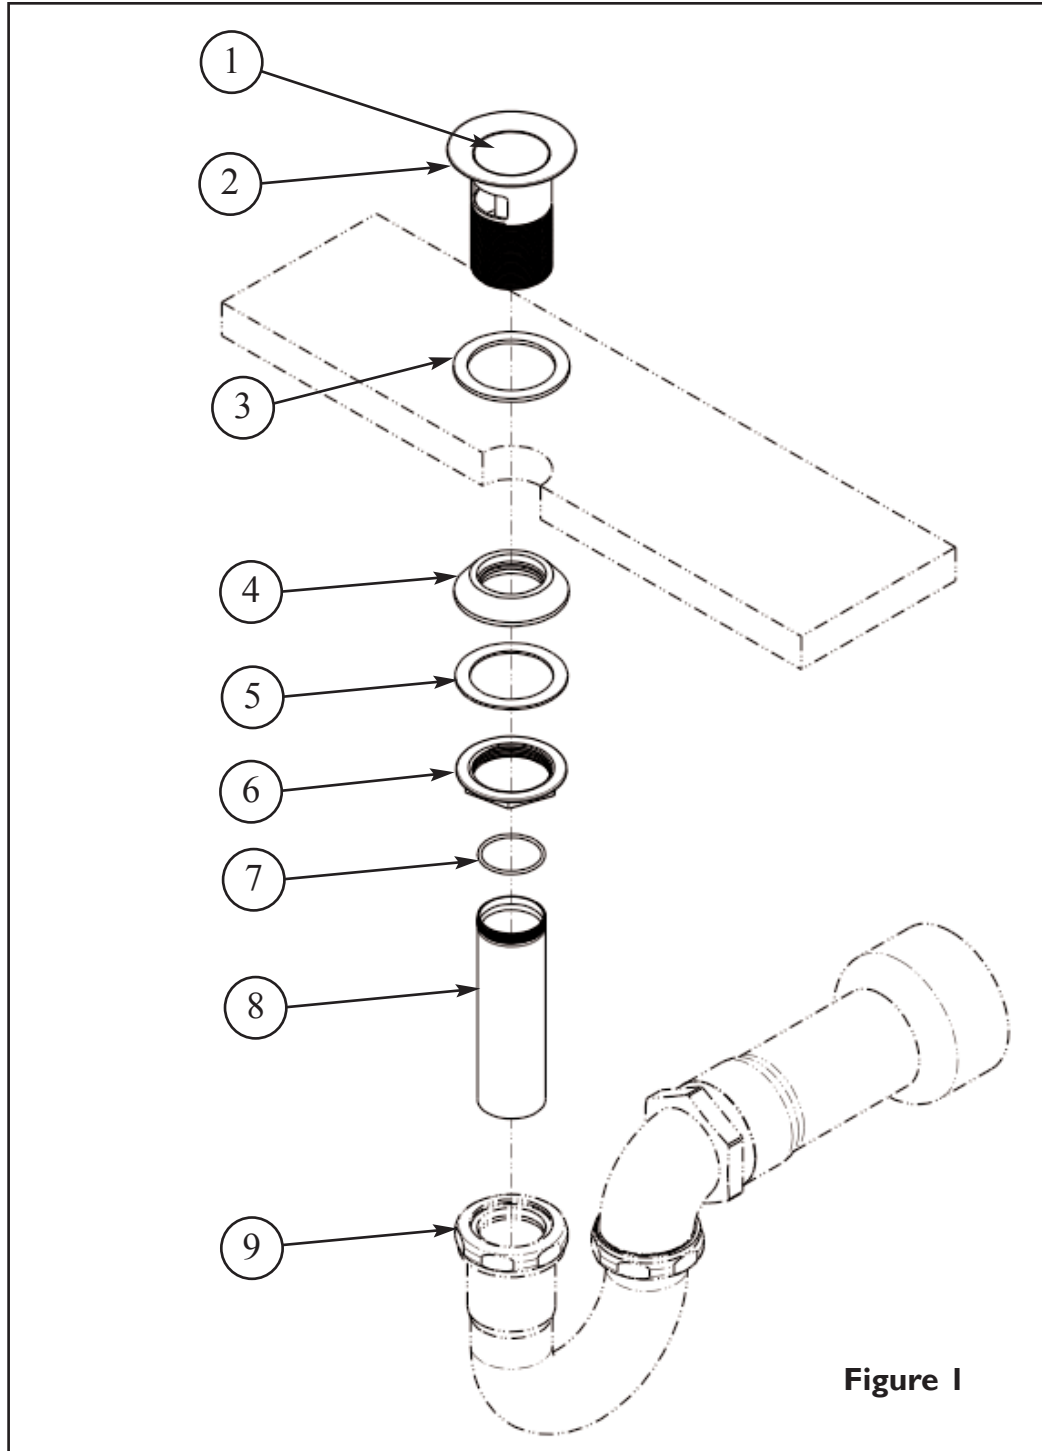

Figure 1
- a. 1/2" IPS flexible RISER (2), discard rubber NOSECONE (7), friction WASHER (3) and coupling NUT (4).
- b. 3/8" or 1/2" O.D. bullnose RISER (5), place friction WASHER (3) and coupling NUT (4) onto bullnose RISER (5).
- c. 1/2" O.D. copper RISER (6), place coupling NUT (4), friction WASHER (3), and rubber NOSECONE (7) onto end of copper RISER (6).
- Turn VALVE STEM (5) to OFF position.
- Tighten ESCUTCHEON (3) with O-RING (4) onto CARTRIDGE (6).
- Place HANDLE (1) into the VALVE STEM (5) and secure with SET SCREW (2). Any adjustments for rotational alignment must be made to the valve body, not to the cartridge.
- Do not remove drain PLUG (1) from FLANGE (2). Place FLANGE (2) and white WASHER (3) through sink drain opening. (Clear silicone may be used in place of white washer.) From bottom side of sink, place cone shaped rubber WASHER (4) onto FLANGE (2) and slide up against sink bottom. Note: Cone portion of WASHER (4) to face upward. Next slide on clear flat WASHER (5) and secure with flange NUT (6). Assemble O-RING (7) to TAILPIECE (8) and attach to drain FLANGE (2). Attach TAILPIECE (8) to p-trap drain (9) (not included). See Figure 1.